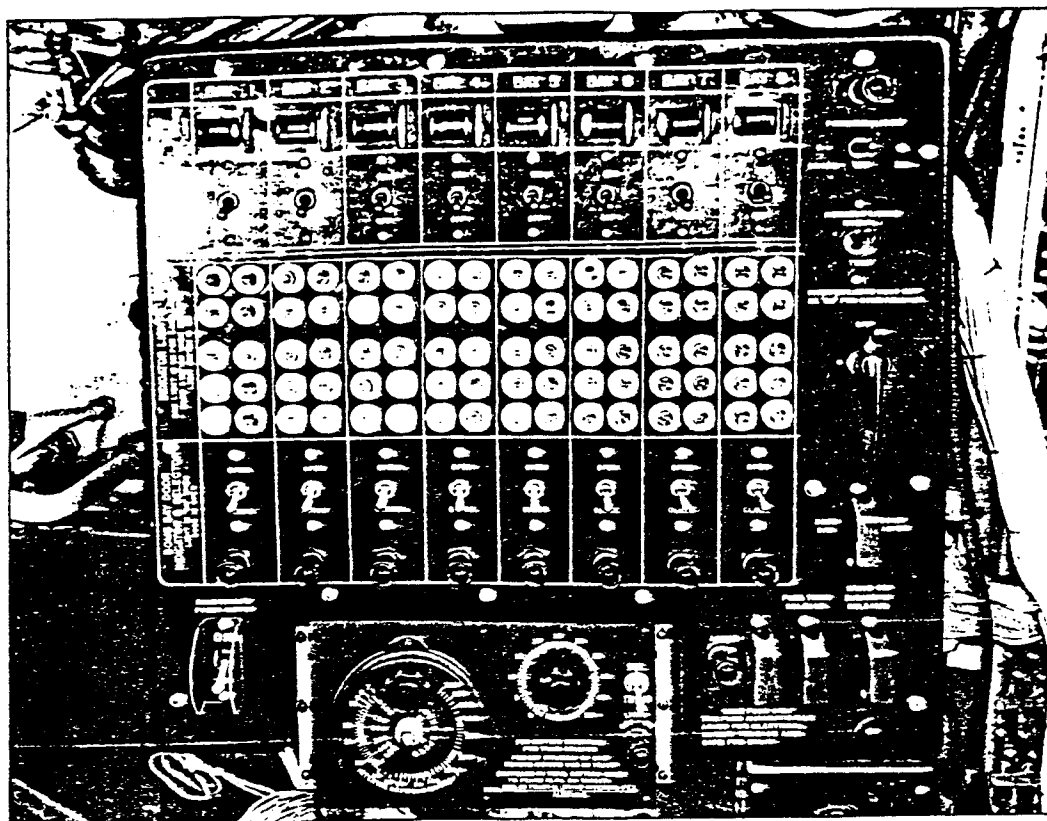

Figure 7. Bombardier's Control Panel
1. DESCRIPTION. (See figure 7).- The type B3-A bomb release interval control is used to control the release of bombs so that each of any number of bombs dropped in train will hit the ground a uniform distance apart. For adjustments it has an indicator light, a train-selector switch, a counter switch, and an interval selector dial. Markings and words are of fluorescent material so as to be visible under ultraviolet light.